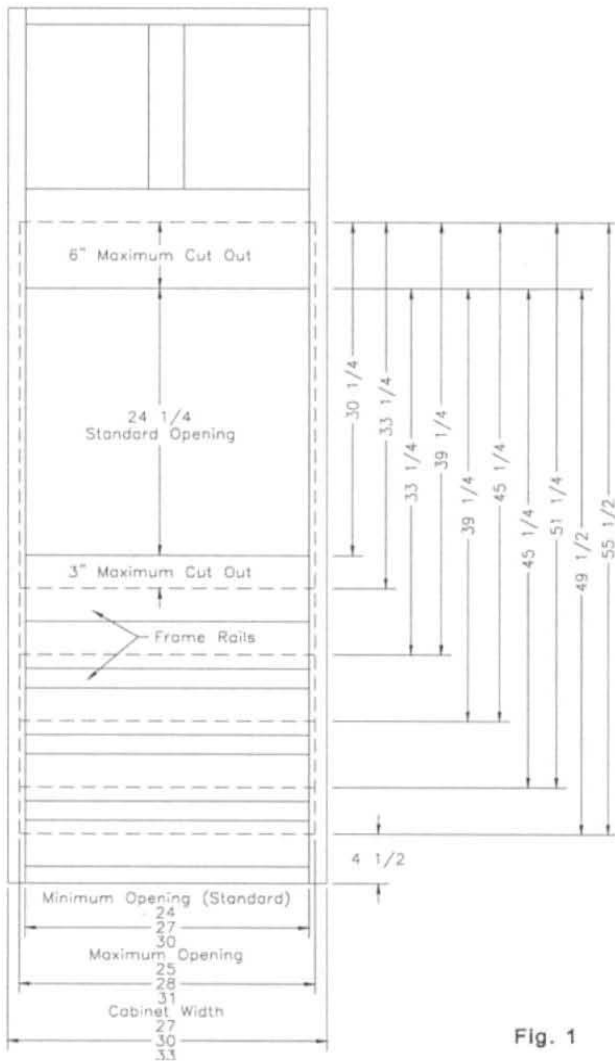

Fig. 1
**STEP 2** To determine the oven opening size (rough-in dimensions), refer to the oven manufacturer's specifications. Position the oven so a minimum of 3" frame rail is left above or below the oven to retain rigidity of the cabinet face frame. Larger ovens will require that one or more frame rails be removed. Do not cut the opening larger than the maximum opening sizes shown (see figure 1).